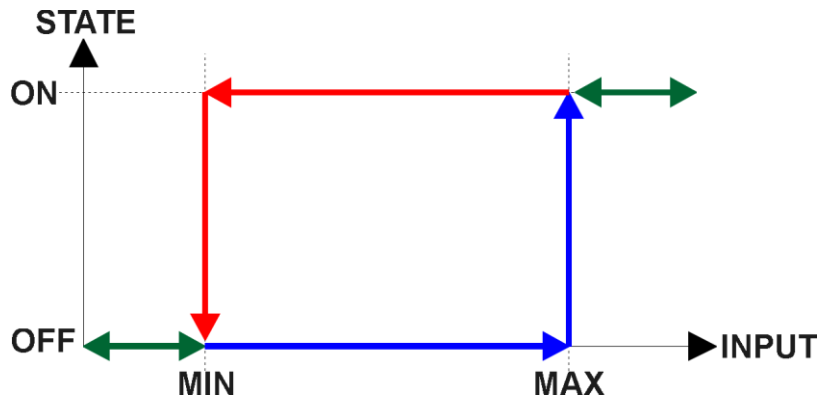

Figure 5 – Analog Input Read as Digital
There is another type of 'digital' input that can be selected when 6112h is set to 20 = Analog On/Off. However, in this case, the input is still configured as an analog input, and therefore the objects from the Analog Input (AI) block are applied instead of those discussed above. Here, Object 2040h is ignored, and 6000h is written as per the logic shown in Figure 5. In this case, the MIN parameter is set by object 7120h **AI Scaling 1 FV**, and the MAX is set by 7122h **AI Scaling 2 FV**.